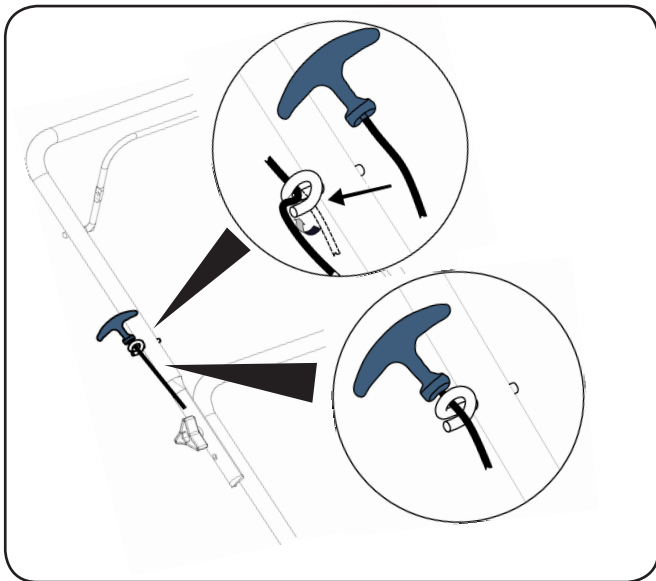

Figure 3-3
3. Put the starter rope into the hook. See Figure 3-3.